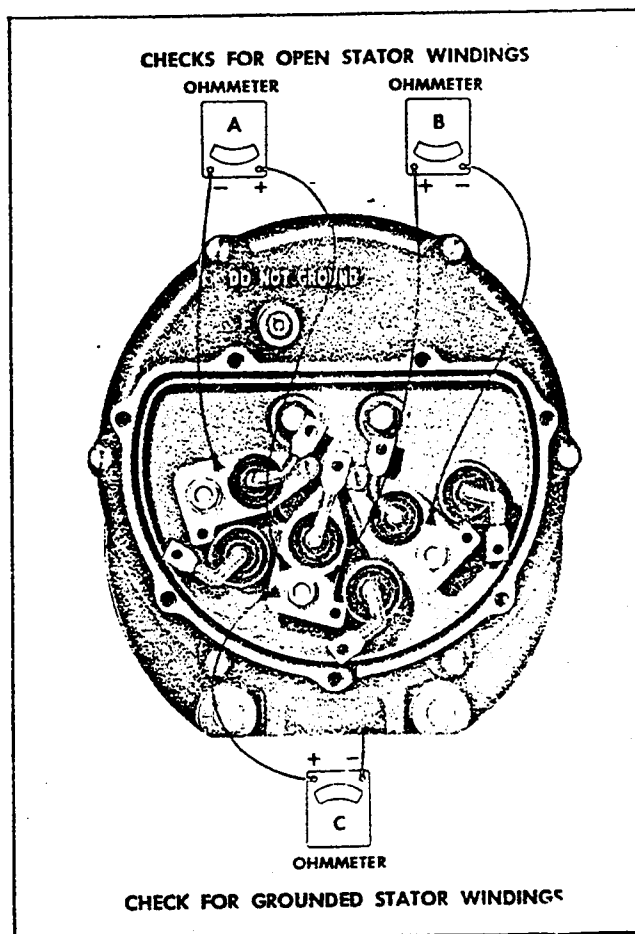
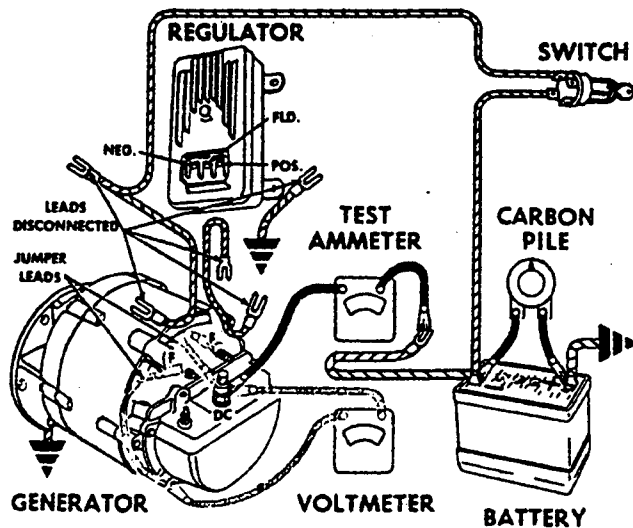

Figure 6 - Checking stator windings for opens and grounds
Fig. 7- Checking generator output (positive ground system).
Opens - Connect the ohmmeter leads to the two pairs of diode supports as shown in parts A and B in Figure 6. The ohmmeter should show a low resistance. If an infinite or high resistance is obtained in either one or both of the checks, the stator windings are open.
Grounds - To check for grounds, connect an ohmmeter as illustrated in Part C in Figure 6. The ohmmeter should show an infinite or very high resistance. If a zero or very low resistance reading is obtained, the windings are grounded.
6. See Figure 6 and Figure 7 for wiring connections.